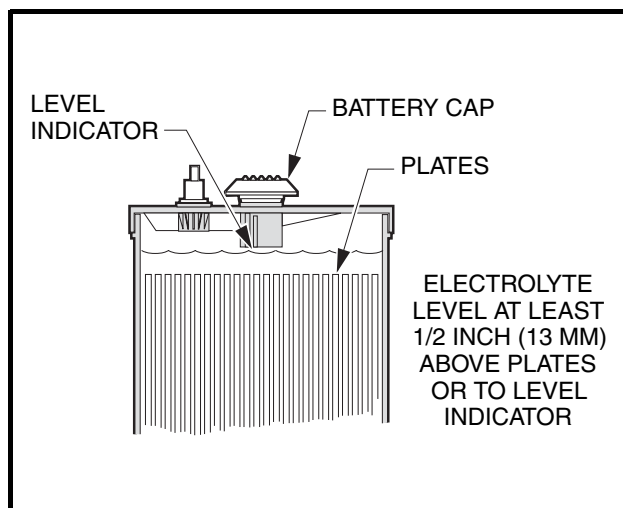

Figure 21 Electric Battery Electrolyte Level
2. The electrolyte level in the batteries should be checked weekly (**Figure 21**). Add water only after charging unless the electrolyte level is below the top of the plates. In this case, add just enough water to cover the plates, charge and then check the level again. Never charge batteries if plates are exposed above electrolyte level. For best battery life, add only distilled water. **See following CAUTION and NOTE.**